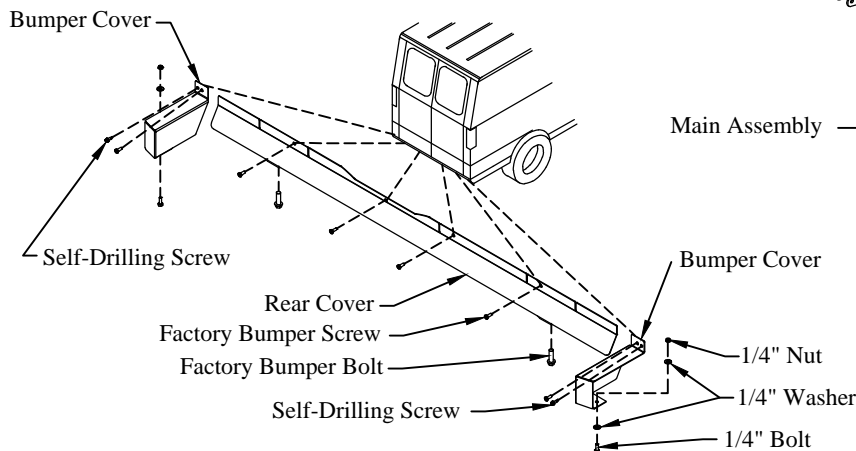

Figure 10: Rear cover hardware location.
- 8. Install** the rear cover on the rear of the van (Figure 10).
- 9. Install** the left and right bumper covers. Use the supplied #12 self-drilling screws, 1/4" bolts, washers, and nuts, and factory bumper screws (Figure 10).